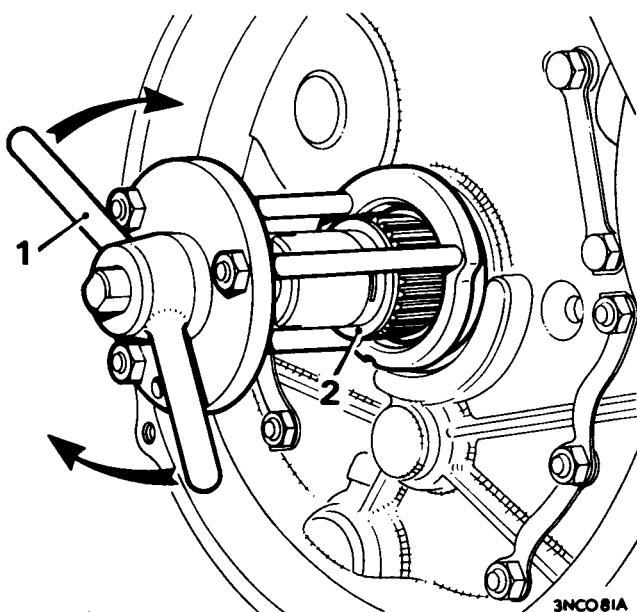

Fig. A.28
13. Pass the body of tool 18G 1068B over the crankshaft and screw the winged nut in a clockwise direction down the centre bolt to press the seal into the housing, Fig. A.28. The seal is correctly fitted when the base of the tool contacts the lip of the housing bore.